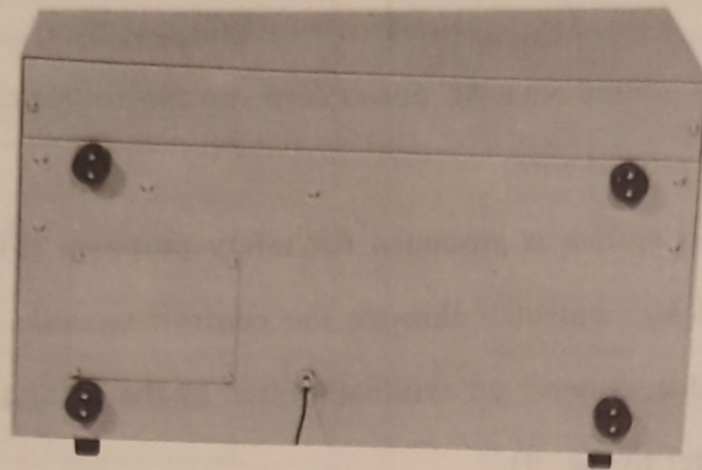
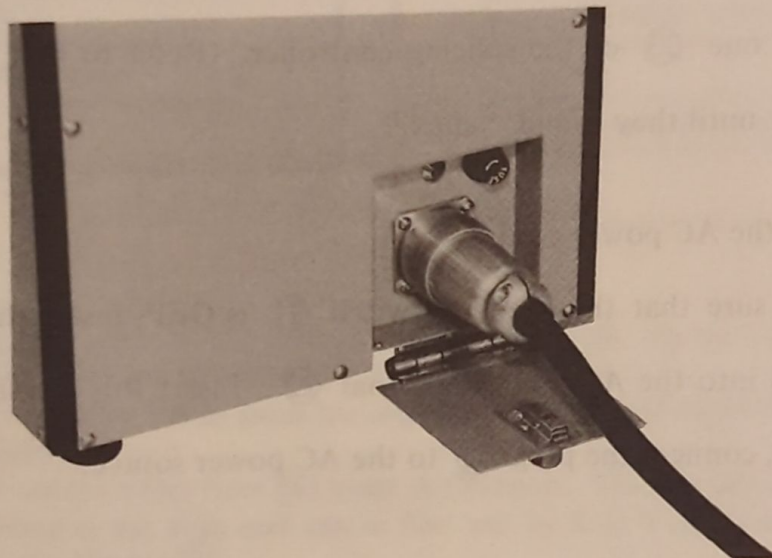

Fig. 9 Connection of the Ground Wire of the Splicing Controller
Fig. 10 Connection of the Controlling Cable to the Splicer Main Body
(1) Construction of the ground wire
Make sure that this system is grounded for safety purposes. The splicer main body is grounded to the splicing controller through the controlling cable. When the 3 pin AC plug ⑤① is not applicable, connect an external ground to the ground terminal ②④ of the splicing controller. (Refer to Fig. 9)
(2) Connection of the controlling cable
Insert the connector ⑤② into the controlling cable terminal ③ of the splicer main body and into the one ②③ of the splicing controller. (Refer to Fig. 10, 11) Insert these connectors ③, ②③ until they sound, "click."
(3) Connection of the AC power cord